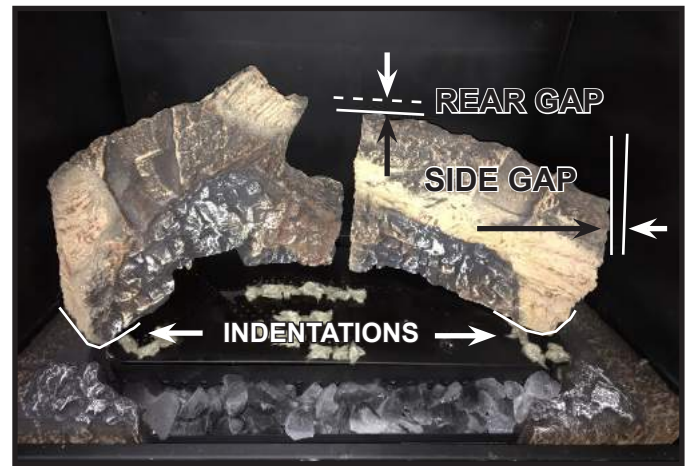

Figure 5. Rear Right Log Installed
The log pins, along with the indentations in the hearth components, will aid in correctly positioning the two rear logs and small burner log. The indentations are shown in Figure 5.
Additionally, the rear left log and rear right log are located by indentations in the right and left hearth components. See Figure 5.
1. Remove large rear left log from the packaging and install the log by locating it on the back left log pin(s). The left side of the log will reside within the indentation in the left hearth component. See Figure 5.
2. Remove the large rear right log from packaging and install it by locating it on the back right log pin. On some models, it may be necessary to lift the rear left log slightly to install the rear right log. The right side of the log will reside within the indentation in the right hearth component. See Figure 5.
550X-AU Models: The rear right log will be positioned to maintain about a 1 in. (25 mm) rear gap between the rear right log and the back wall refractory. The rear right log maintain a 1 in. (25 mm) gap from the right wall. See Figure 5.